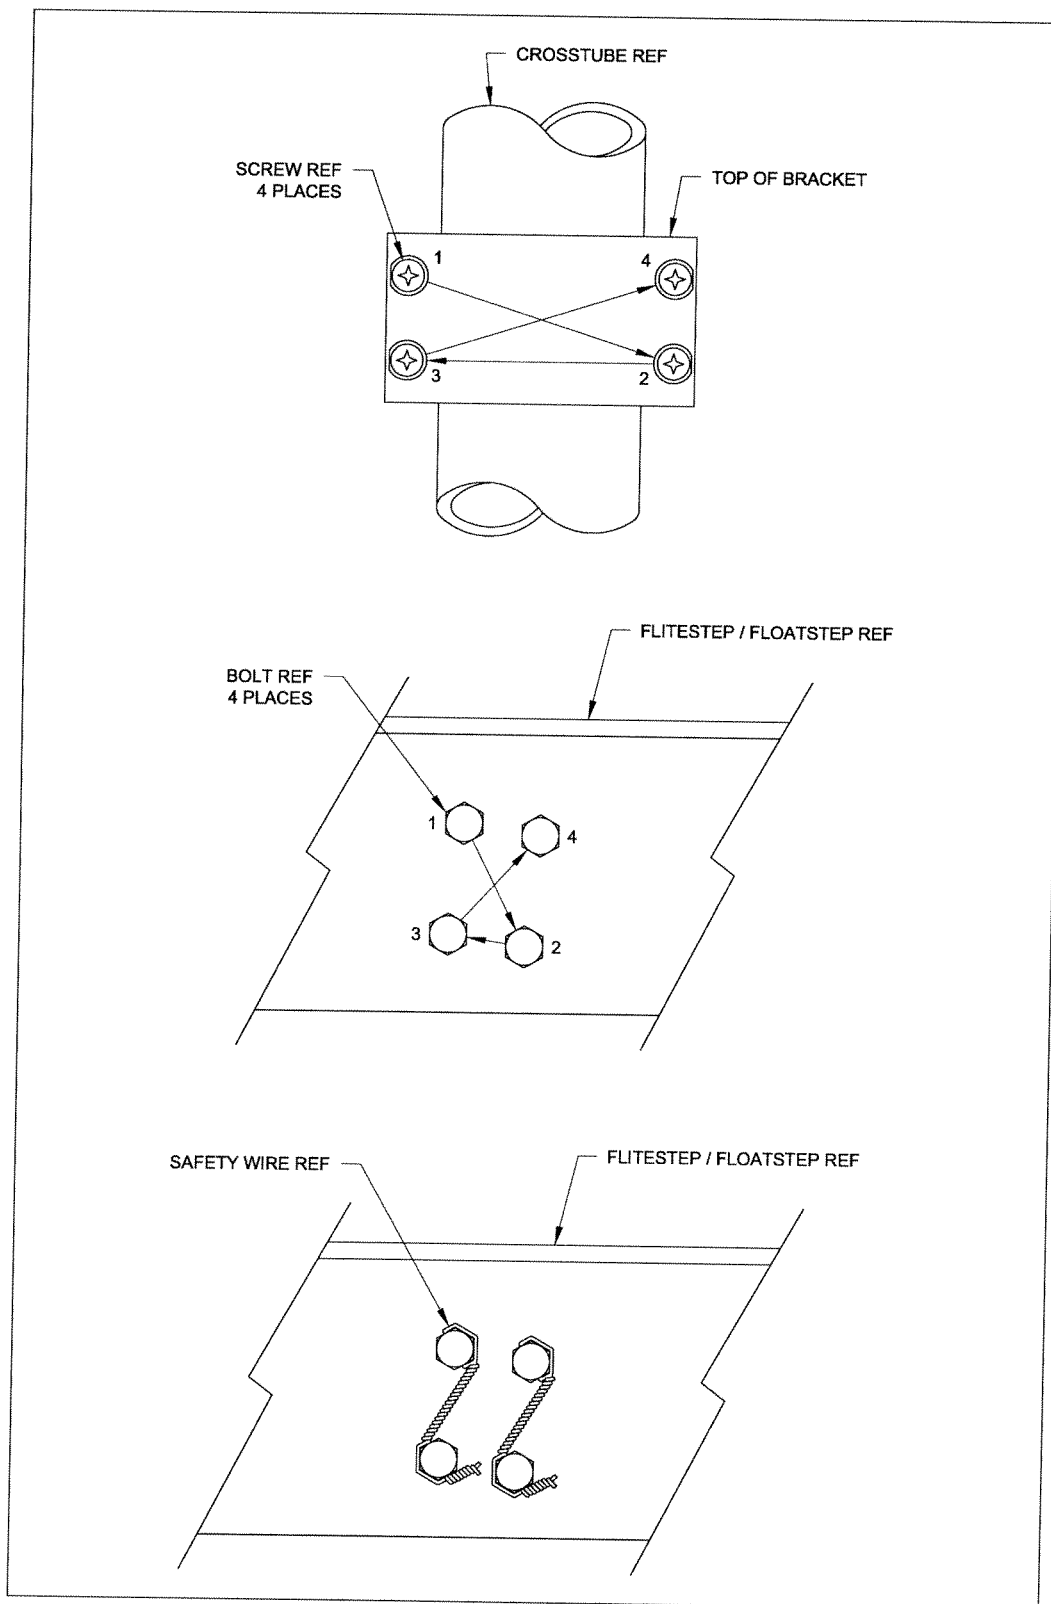

FIGURE 7 – FASTENER TIGHTENING PATTERN
2. Remove safety wire and check the torque values on the attaching fasteners per Table 2. Re-torque fasteners as required. Install new safety wire (.032 diameter) as shown in Figure 7.